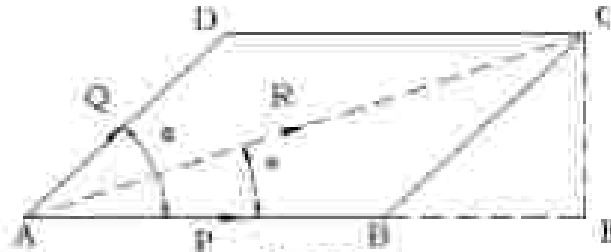

Fig 1.17
- Consider two forces 'P' and 'Q' acting at and away from point 'A' as shown in figure 1.17.